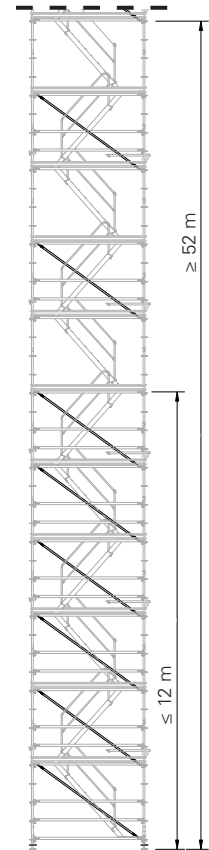

Fig. B7.06
- Fit Ledger Braces UBL-2 in the lower levels in accordance with Section "Tie positions – installation heights" on page 77. (Fig. B7.06)